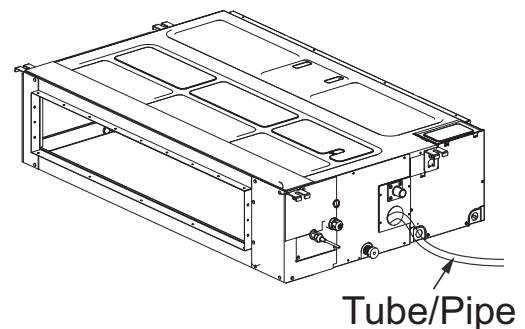

Fig. 34 —Tube/Pipe Insert
2. Use a piece of tubing or pipe to fill the drain pump reservoir with 70 oz. of water as shown in Fig. 34 below.